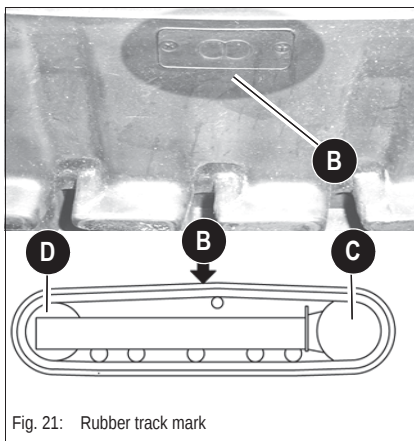

Fig. 21: Rubber track mark
- The rubber track has a mark **B** as shown in Fig. 21.